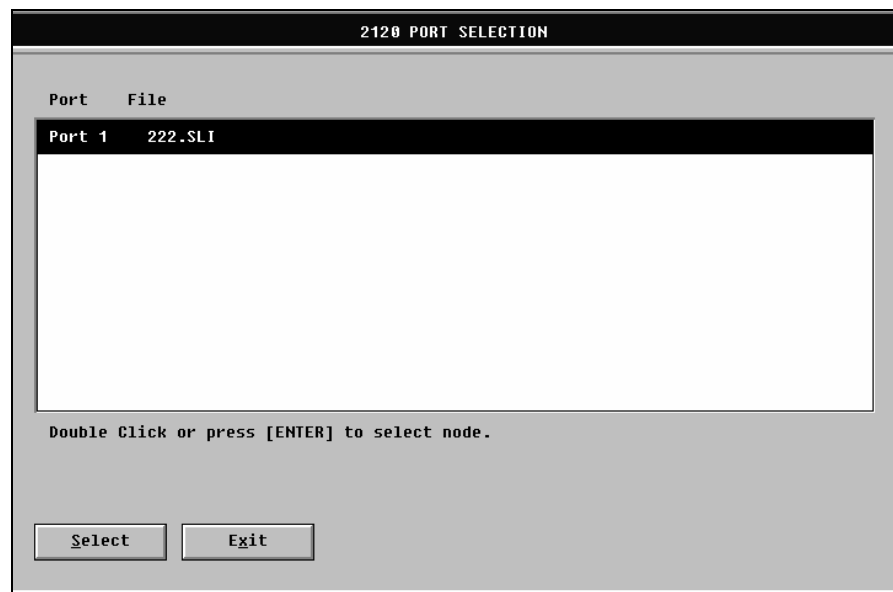

Figure 5-7 2120 Port Selection Screen
7. From the TrueSite Workstation Configurator screen, select the Configure menu and select the Point Config option. The system displays the 2120 Port Selection dialog shown in Figure 5-7.